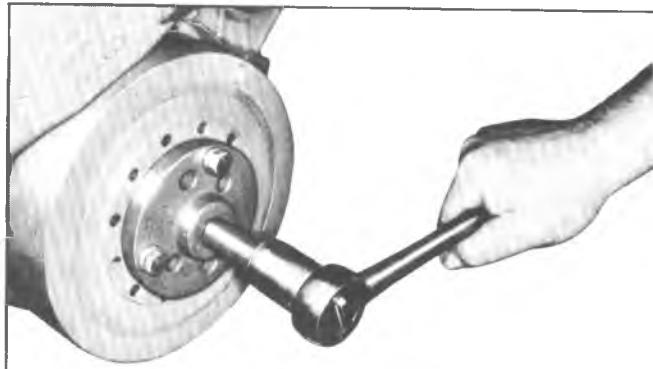

Fig. 16V—Removing Torsional Damper
4. Install Tool J-23523 on damper then, turning puller screw, remove damper (fig. 16V).